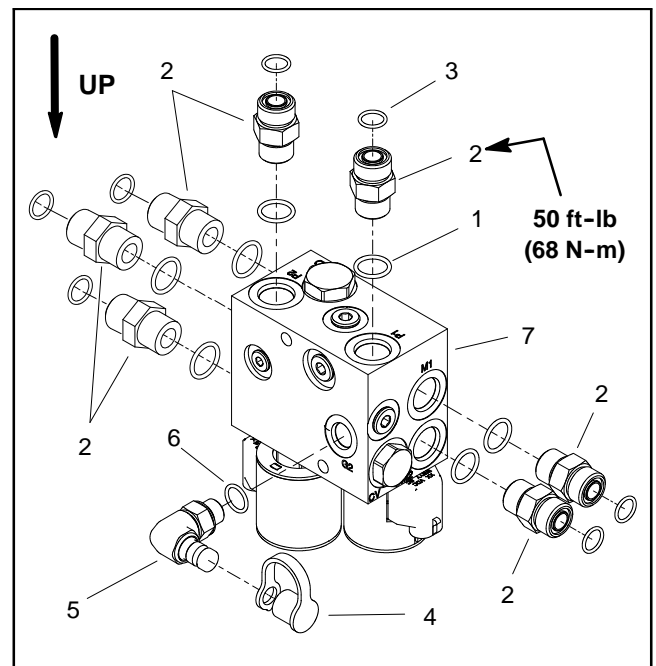

Figure 86
8. If hydraulic fittings are to be removed from fan control manifold, mark fitting orientation to allow correct assembly (Fig. 86). Remove fittings from manifold and discard O-rings.
1. If fittings were removed from fan control manifold, lubricate and place new O-rings onto fittings. Install fittings into manifold ports using marks made during the removal process to properly orientate fittings. Tighten fittings (see Hydraulic Fitting Installation in the General Information section of this chapter). Refer to Figure 86 for fitting installation torque.